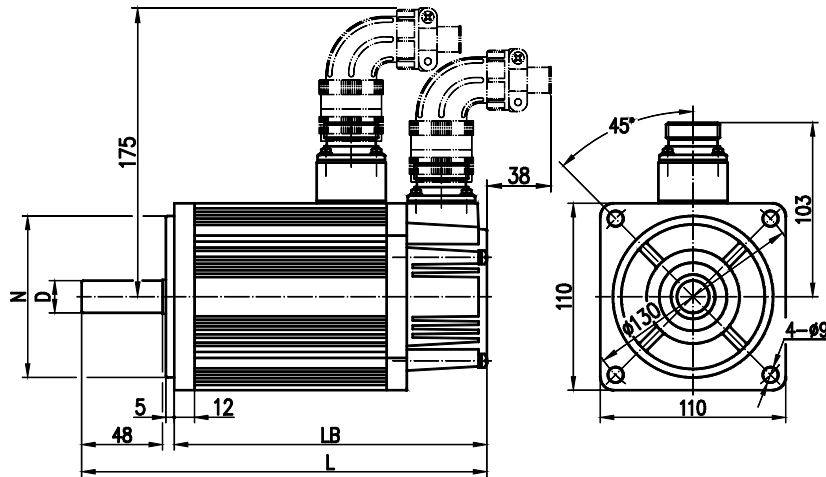

Fig. 2-2
- Outline installation dimension and connection of 110SJT series motor referred to Fig. 2-2, Table 2-2.